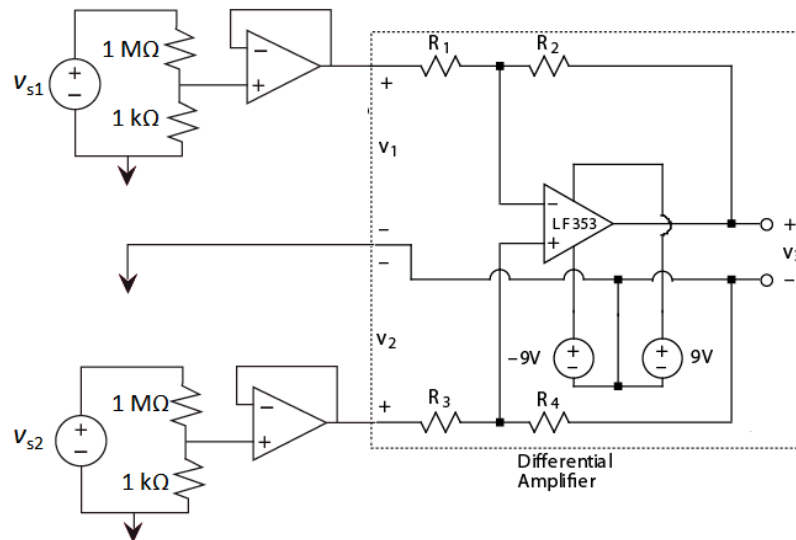

Figure 15. Testing differential amplifier using voltage dividers. (Arrow represents reference.)
3) *Measure the differential-amplifier output voltage for several different input voltages for input 1.* Then repeat the process for input 2. Fill out Tables IV and V in your lab notebook. Because the circuit has a high gain, you will test the circuit with small input voltages. Fig. 15 shows how voltage dividers like the simulated electrodes used earlier could be used to create small input voltages from power supply voltages of several volts. If enough power supplies were available, it would be possible to use the circuit shown in Fig. 15 to test both inputs at once. Since only one extra supply, (the 6V supply), is available, however, you will test your circuit using one simulated electrode driving only one pre-amp input at a time. To do so, connect the + wire for simulated output  $E_2$  to Input 1 and later to Input 2. The other pre-amp input will be left unconnected, which is effectively like connecting that input to reference. As when testing simulated electrodes earlier, use the 6V power supply to drive the input of the simulated electrode voltage divider. Note that  $E_2$ ,  $v_1$ , and  $v_2$  will be very small but may be measured with the voltmeters in the lab. You should find that  $v_3$  is several hundred times larger than  $v_1$  and  $v_2$ . Also, when using input 1,  $v_2$  should be relatively constant, and vice versa.